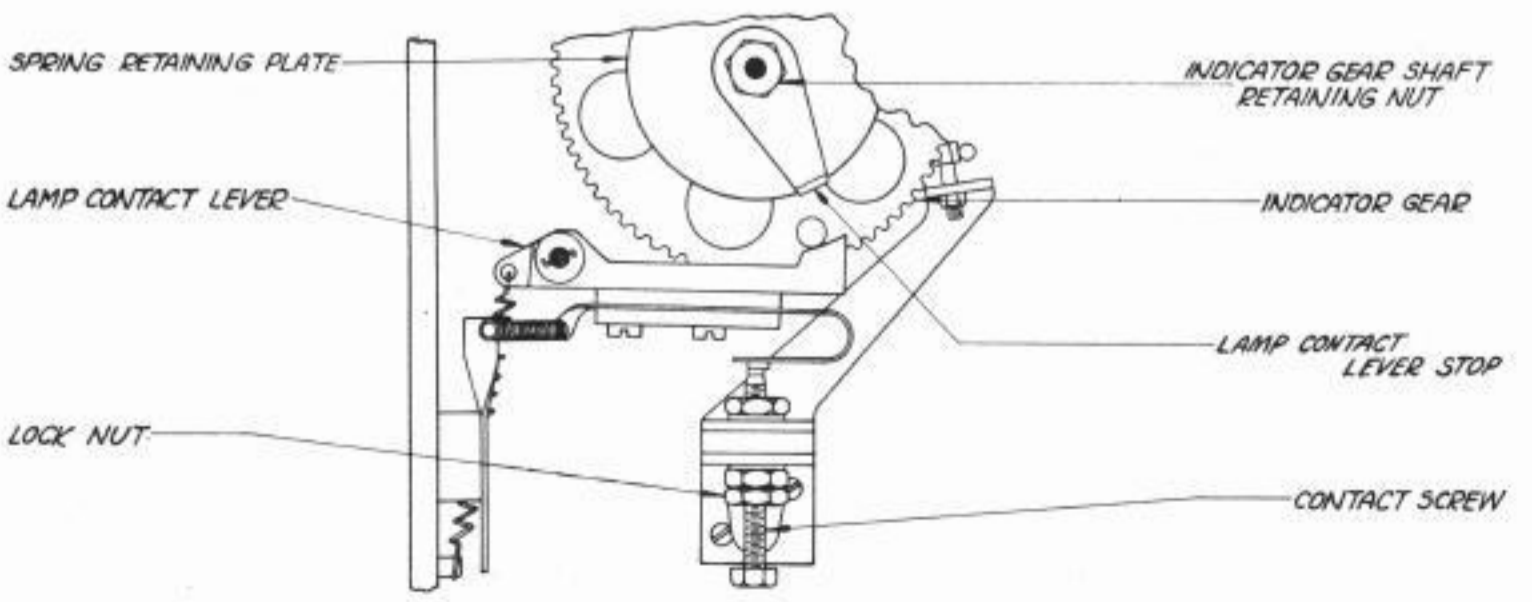

FIGURE 17
****Indicator Gear Return Spring Tension Adjustment (Figure 17)**
****Indicator Lamp Contacts Adjustment (Figure 17)**